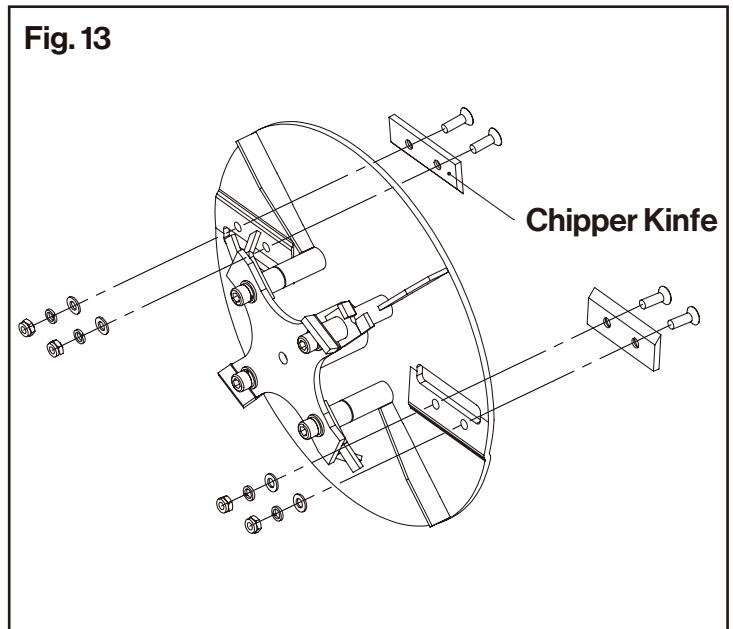

Fig. 13
5. Using a hex wrench, remove the two socket head cap screws and the chipper knife. (**Fig.13**)